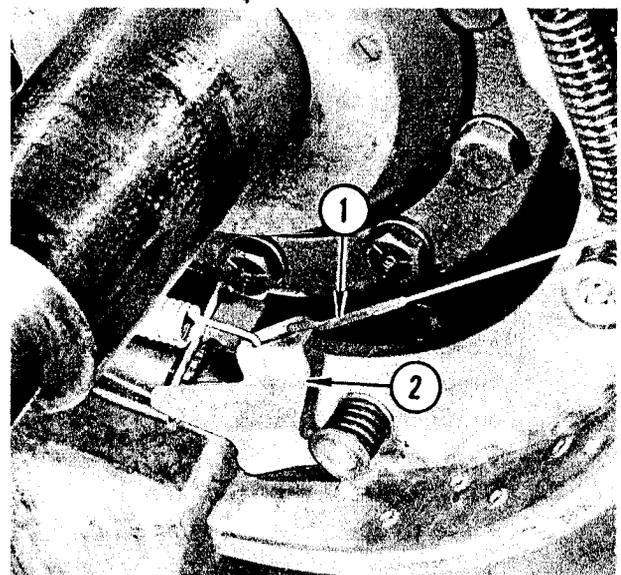

FIGURE 4. INSTALLING CABLE
2. When installing the hook end of the automatic adjusting cable (1) to the automatic adjusting lever (2), the hook must be inserted from the top of lever, Figure 4. CAUTION: Do not twist cable.